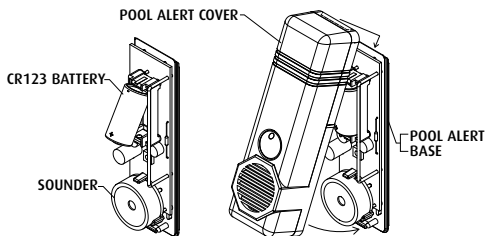

FIG. 6
3. Install battery and cover (Fig. 6).
3. Reattach cover to the backplate (Fig. 6).